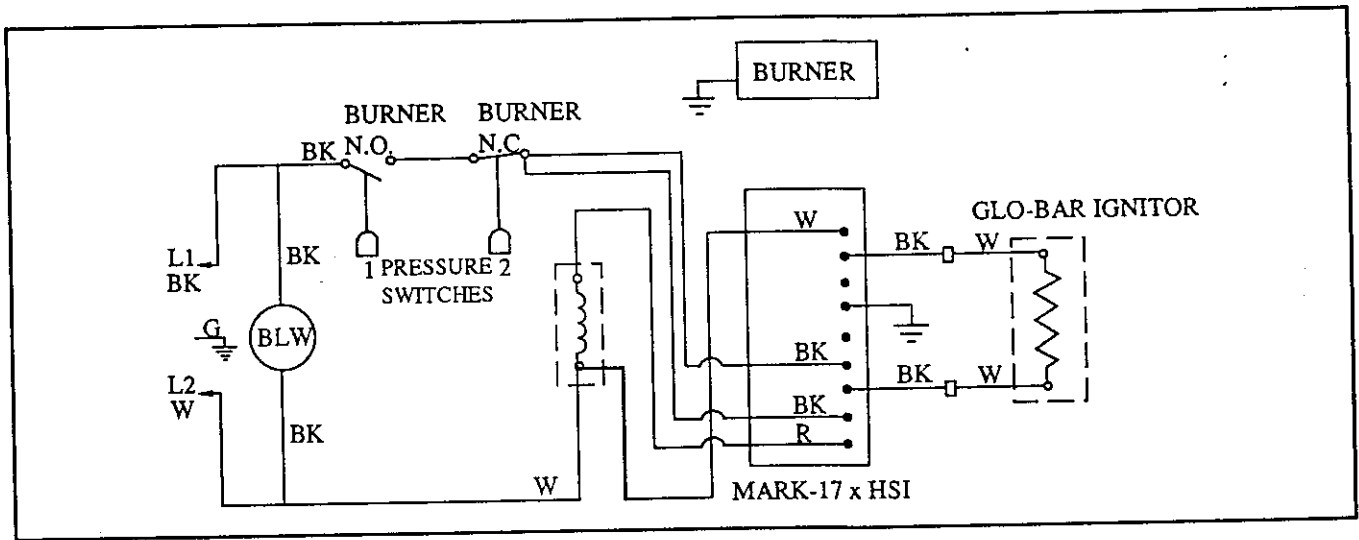

Figure 2-3
• Starting Circuit (Figures 2-3 and 2-4)